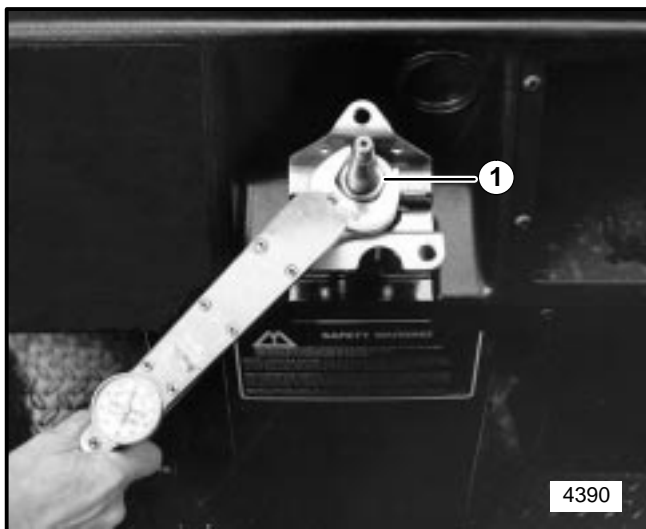

FIGURE 20
2. Tighten the jam nut to 15 ft.-lbs. (20 N·m) torque. Hold this nut to keep it from turning and tighten the locking nut to 91 ft.-lbs. (120 N·m) minimum, 109 ft.-lbs. maximum torque. Refer to Figure 20.